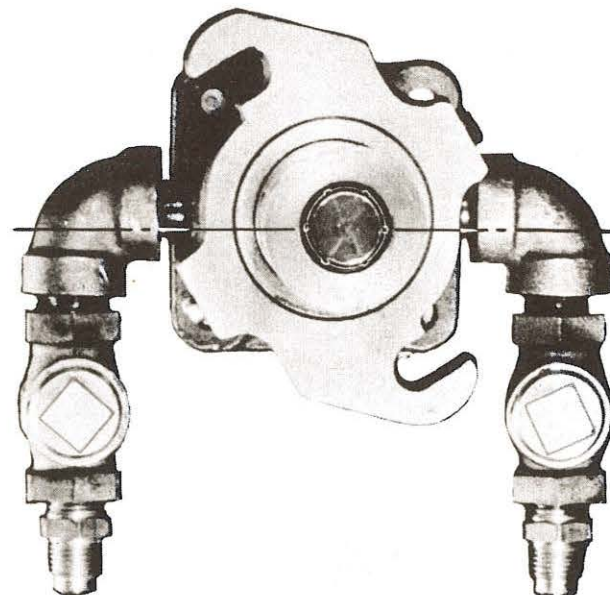

Fig. 38 — Position of Nozzle Tip.
Tighten the nozzle nut — then loosen the body nut and move the nozzle assembly so that a line drawn through opposite orifices of the nozzle tip would be parallel to a line drawn through the center of the fuel and air inlets, as illustrated in fig. 38. The spark plug electrodes should be positioned between two of the fuel spray jets as shown in the illustration on page 49.
2. **Nozzle Height Adjustment:** When tightening the nozzle retainer, hold the nozzle tip so a line drawn through opposite orifices would be parallel to a line drawn through the center of the fuel and air inlets, as illustrated in fig. 38. The spark plug electrodes should be positioned between two of the fuel spray jets as shown in the illustration on page 49.